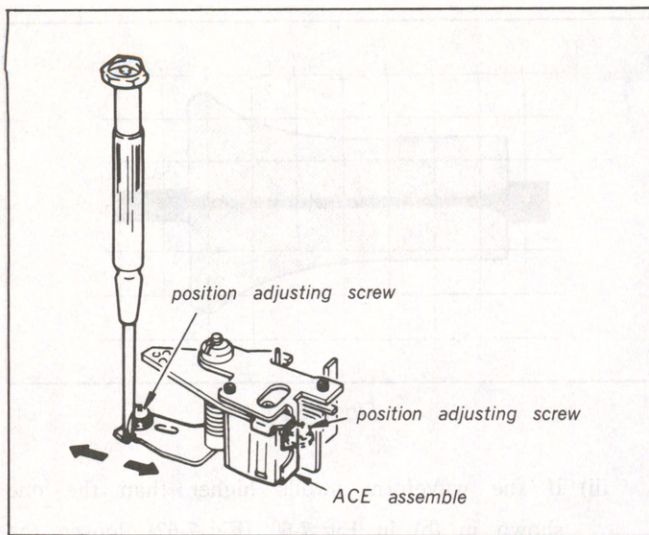

Fig. 7-57.
- (1) Set the CTL head at the tracking center.
- (2) Loosen the two ACE assembly position adjusting screws, and slide the assembly using a minus driver, etc. so that the amplitude of the radio frequency output waveform should run up to its maximum. (Fig. 7-57)
- (3) Playback the color bar signal for the alignment tape to check the quality of pictures.
- (4) Tighten the position adjusting screw and lock it.